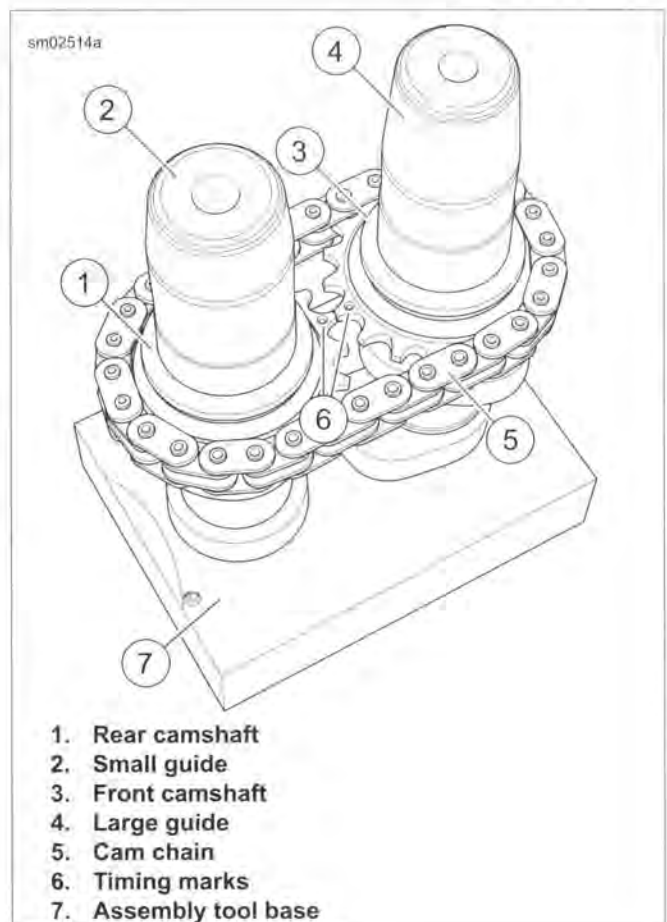

Figure 3-86. Camshaft Assembly Tool
1. See Figure 3-86. Align timing marks on teeth of cam sprockets.
3. See Figure 3-86. Place crankcase side of camshaft/cam chain assembly into CAMSHAFT ASSEMBLY TOOL (Part No. HD-47956) base (7) while maintaining cam timing mark (6) alignment.
4. Place small guide (2) on rear camshaft (1). Place large guide (4) on front camshaft (3).